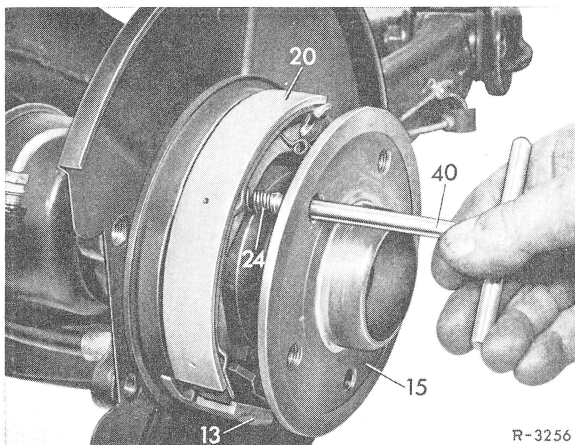

Fig. 11
5 Turn rear axle shaft flange (15) so that one tapped hole points toward spring (24). Then compress spring slightly with installation tool (40), turn tool by approx. 90°, disconnect spring from cover plate and remove (Fig. 11).
16 Insert spring (24) into brake shoes (20). Introduce installation tool (40) through a tapped hole of rear axle shaft flange (15), then compress spring slightly, turn by 90° and attach to cover plate (19). Make sure that spring is correctly attached (Fig. 11 and 17).